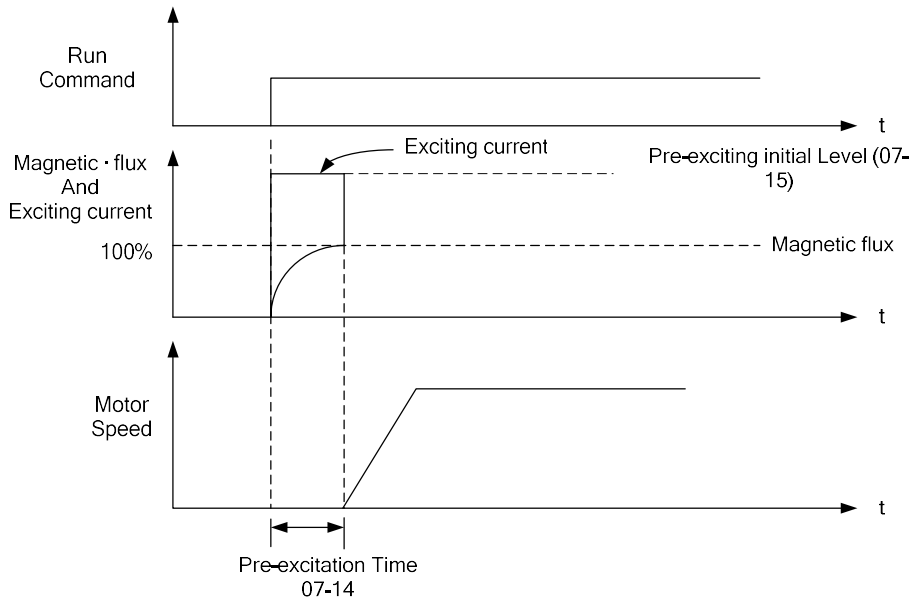

Figure 4.3.84 Pre-excitation operation
(1) Pre-excitation time (07-14)
- As shown in Figure 4.3.84, after the flux reaches 100%, set the pre-excitation time. The time required to establish magnetic flux is the function value of the motor's electrical time constant.
(2) Pre-excitation threshold (07-15)
- When 100% magnetic flux is established and the excitation current has returned to 100%, pre-excitation has ended. Refer to Figure 4.3.84 below.